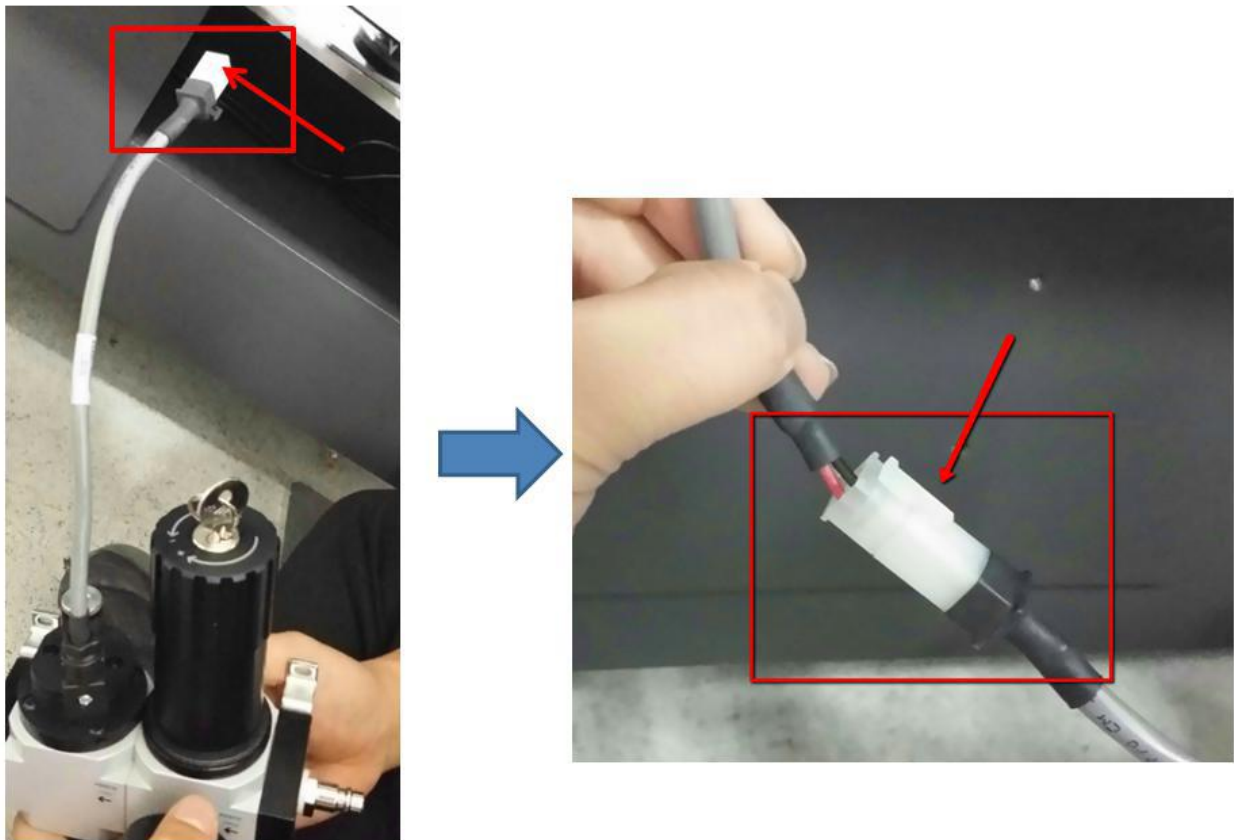

Figure 11 Valve Connector Assembly
3. Connect the Air Pressure regulator's valve connector to V810 machine's valve connector. May refer to below Figure 11.